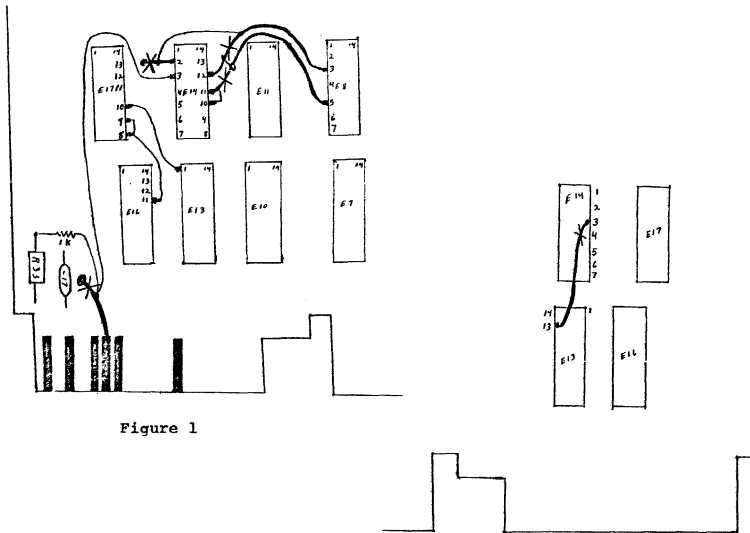

Figure 1
Reference: Figure 1 and 2
- 2) Cut the etch from the following pins "Ref. Fig. 1 & 2"
- 4) Connect the following pins Ref. to fig. 1